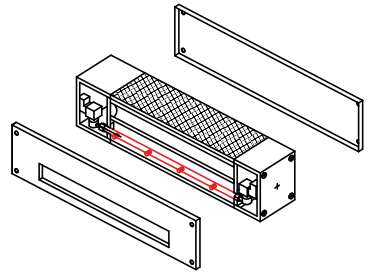

Fig. 19
2. remove the front panel and the rear panel by unscrewing the 4+ 4 fastening screws (Fig. 19);
13. for the versions with speed control, check the air flow-rate and the distance reached by the droplets of atomised water and adjust if necessary (Fig. 19);